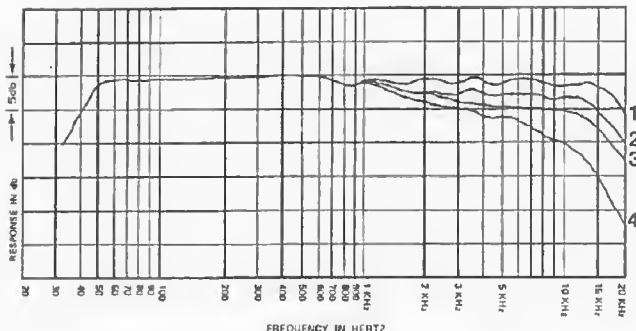
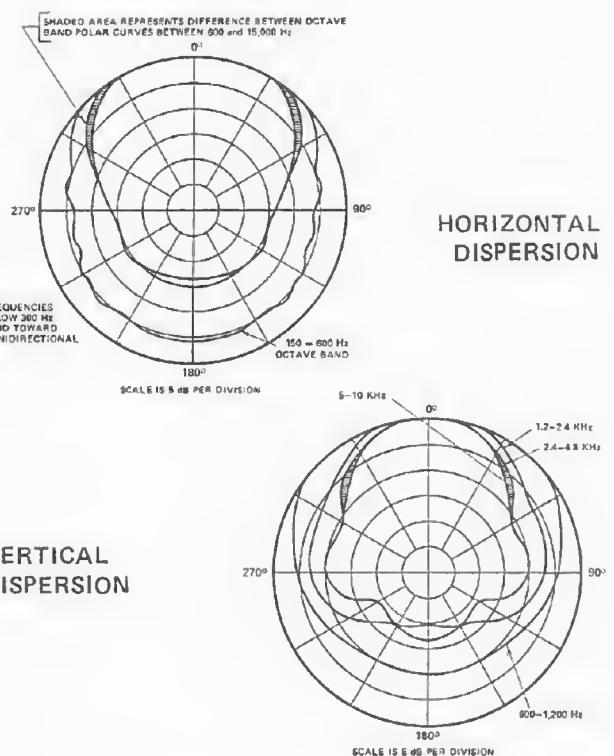

FIGURE 1 — Frequency Response
FIGURE 2 – Frequency Dispersion
Frequency Response: 50 to 18,000 Hz (See Fig. 1)
The midrange and tweeter horn designs represent the first significantly new sectoral design in 25 years. With vertical dispersion of greater than 60-degrees at all frequencies and extremely stable horizontal dispersion at 120-degrees virtually throughout the frequency range, these horns offer a uniformity of coverage which practically eliminate "hot spots" and "dead areas" in the control room or elsewhere (See Figure 2). Totally new drivers are associated with the midrange and high-frequency components to offer both ruggedness and linear response.
Accurate system layout with the Sentry IVA may be made by referring to the axial frequency response of Figure 1 as well as the octave band random noise polar response of Figure 2. From these figures, the sound pressure level available at a distance of 4 feet with full power in (50 watts) may be determined for any octave band at any angle.
**Level Variations with Distance: Reverberant Environments Indoors:** Where sound is reflected from walls and other surfaces and the environment is reverberant, there is a point (the "critical distance") beyond which the "reverberant field" dominates and sound pressure is nearly constant. This distance is typically ten to twenty-five feet from the speaker and is shortest for the most reverberant rooms. Because of the reverberant field, the sound pressure level obtainable in a room is much higher and more constant than that predicted by inverse square law alone. However, the information in Figures 1 and 2 is still necessary in order to obtain satisfactory distribution of the sound direct from the loudspeaker ("direct field"), which still follows the inverse square law.